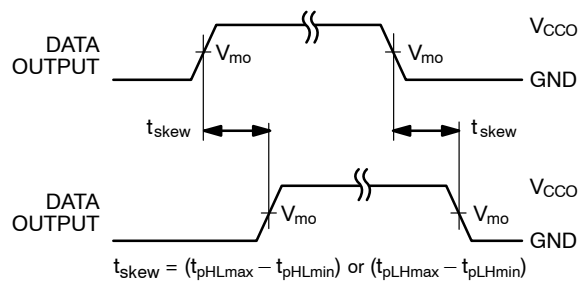

Figure 15. Output Skew Time
16. Skew is the variation of propagation delay between output signals and applies only to output signals on the same port ( $A_n$  or  $B_n$ ) and switching with the same polarity (LOW-to-HIGH or HIGH-to-LOW) (see Figure 15). Skew is guaranteed; not production tested.